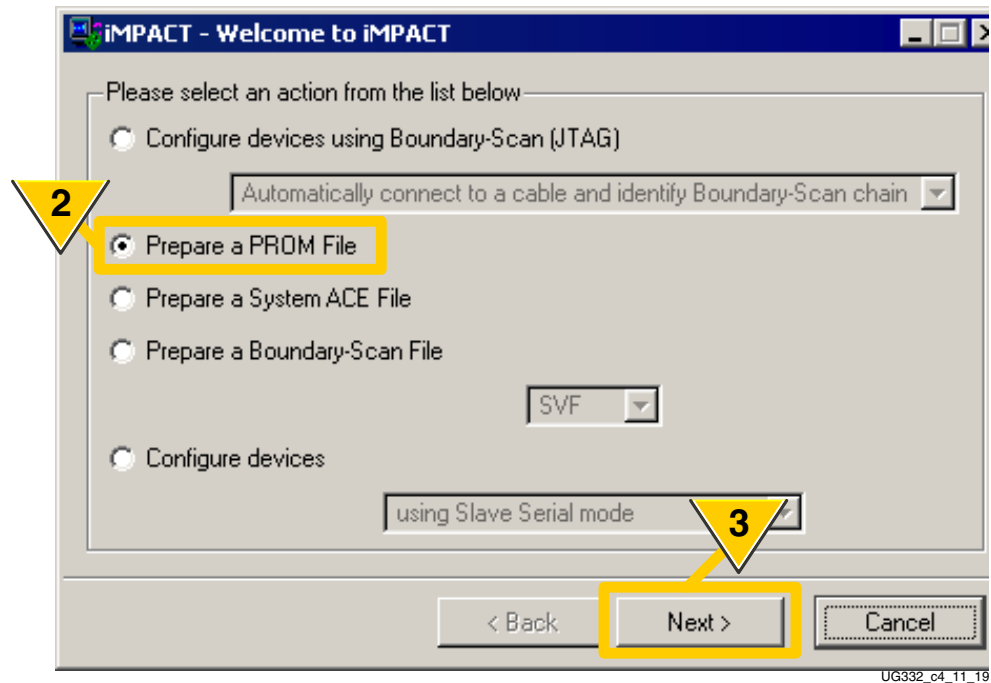

Figure 4-10: Prepare a PROM File
- As shown in Figure 4-10, select **Prepare a PROM File**.